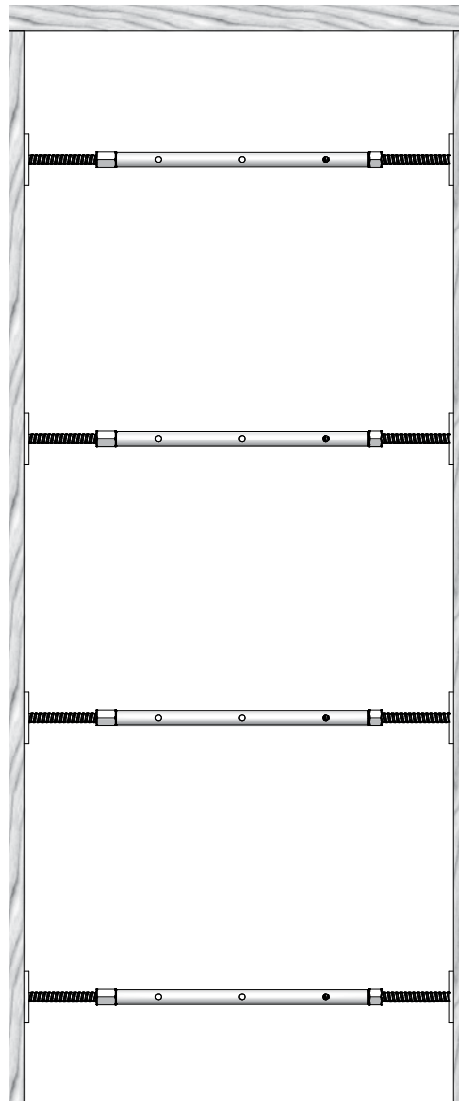

Fig. 8.2
When using 4.5 cm thick boards, door spindles need to be attached with a max. distance of 60 cm between them (Fig. 8.2). The number of door spindles required is determined by the wall thickness (WT):
- WT up to 20 cm: 1 spindle per spindle level as shown in Fig. 8.2